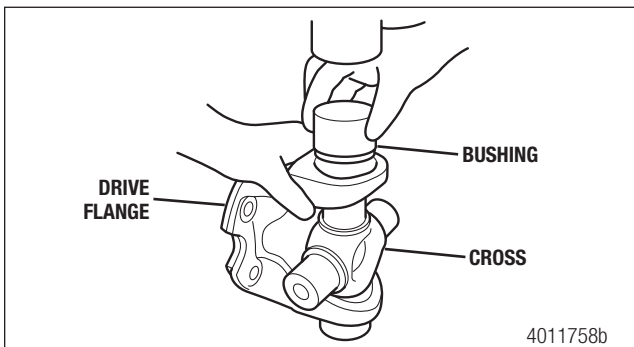

Figure 5.84
3. Install the cross into the drive flange. Figure 5.84.